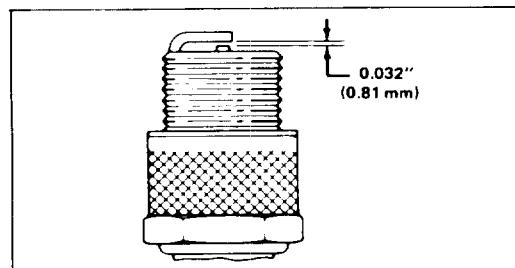

Figure 13
3. Set air gap at 0.032" (0.81 mm) (Fig. 13). Install correctly gapped spark plug and gasket seal. Tighten plug firmly to 10 ft-lb (13.6 N·m).